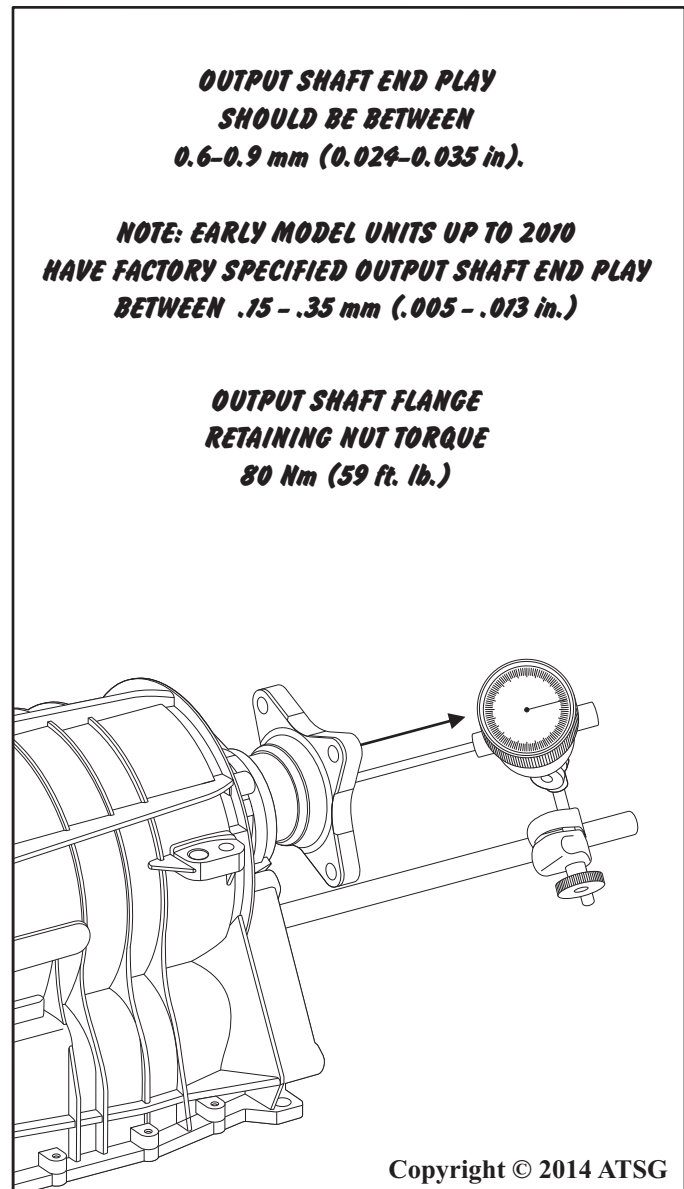

Figure 147
38. Set a dial indicator onto the output shaft and check the end play as shown in Figure 147. Output shaft end play should be between 0.6-0.9 mm (0.024-0.035 in).